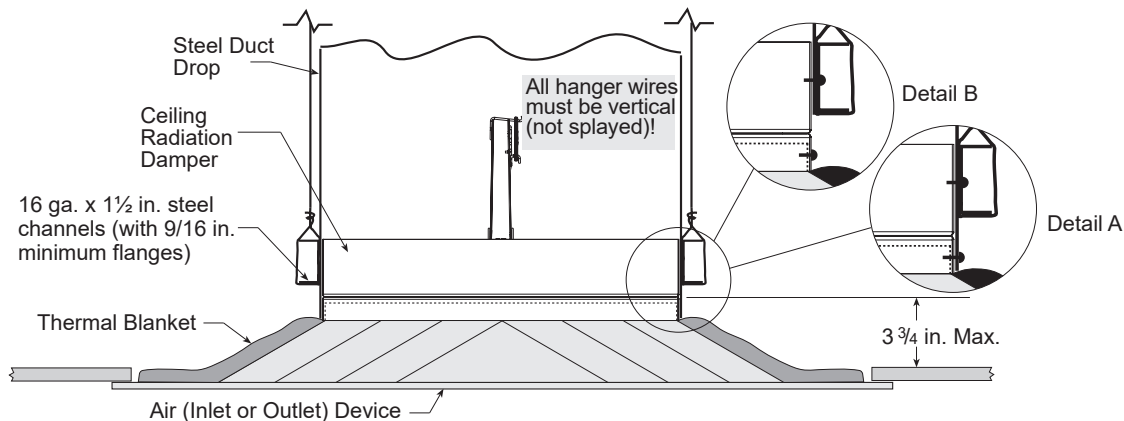

**Figure 7**
Ceiling radiation dampers and air inlet or outlet devices may also be supported directly from the structure above using one or more of the methods described in **Figures 7, 8, 9, or 10**. When channels are to be used as support, they must be 16 ga. x 1 1/2 in. steel channels with 9/16 in. minimum flanges (2 required per damper on opposite sides). Air device flange must overlap the ceiling membrane by a minimum of one inch.
1. Ceiling radiation damper and air device neck may be connected directly to the duct drop (see **Detail A, Figure 7**).
2. Ceiling radiation damper may be connected directly to the air device neck and then the duct drop connected to the damper (see **Detail B, Figure 7**).
1. The steel duct drop should extend to the bottom surface of the ceiling membrane and the opening in the ceiling membrane (see General information, Ceiling Penetrations) should be equal to the outside of the duct drop (see **Detail C, Figure 7**). Models CRD-1, CRD-1LP, CRD-2, and CRD-60 may be installed as shown in **Figure 7** (Model CRD-1 & CRD-1LP illustrated).
2. A steel angle should be attached to the bottom of the ceiling radiation damper and span the gap from the ceiling radiation damper to the bottom of the ceiling membrane (see **Detail D, Figure 7**).
Models CRD-1, CRD-1LP, CRD-2, and CRD-60 may be installed as shown in Figure 7 (Model CRD-1 & CRD-1LP illustrated).